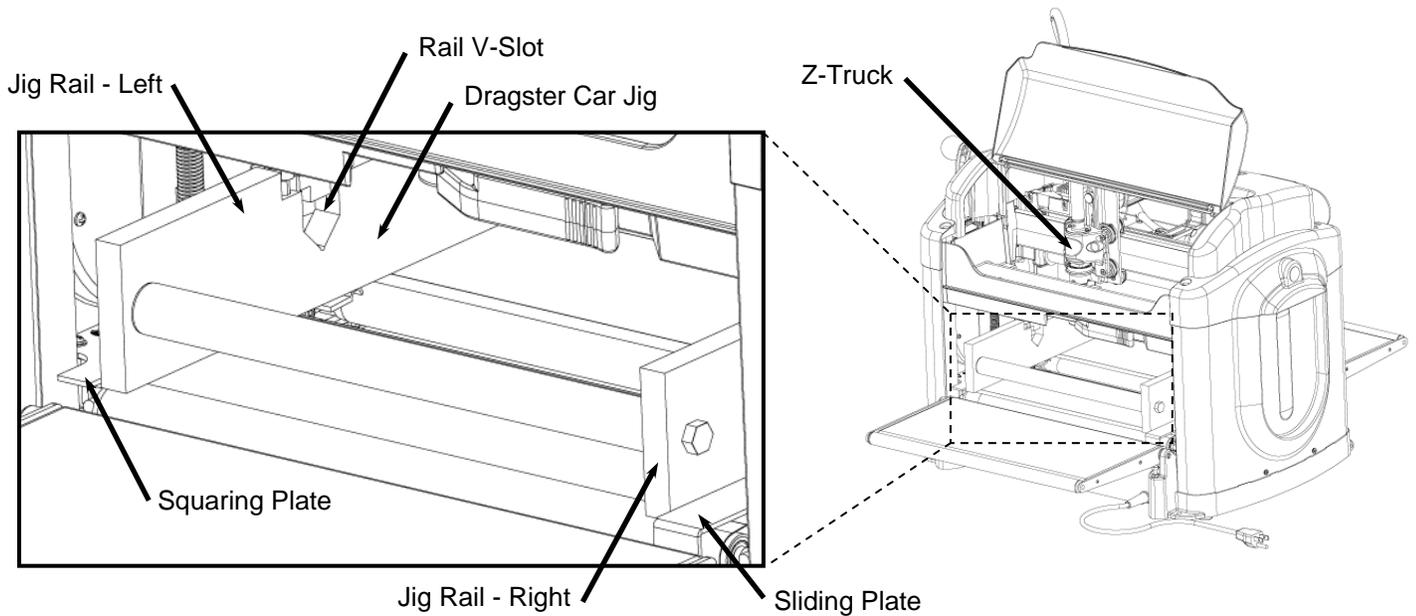

FIGURE 3: VIEW OF THE DRAGSTER JIG INSERTED INTO THE MACHINE
3. **Insert the jig into the machine.** Crank the head of the machine up to within one inch from the top of the four vertical posts. Insert the empty jig into the machine with the wood runners down, being careful not to snag a belt with the jig. Position the jig roughly in the center of the machine, sliding it tightly up against the squaring plate along its entire length. Crank the head down until the compression rollers on the underside of the head barely touch the jig rails. The jig needs to be free enough to be easily moved by hand in and out of the machine. Move the sliding plate firmly up against the right side of the jig (Figure 3).